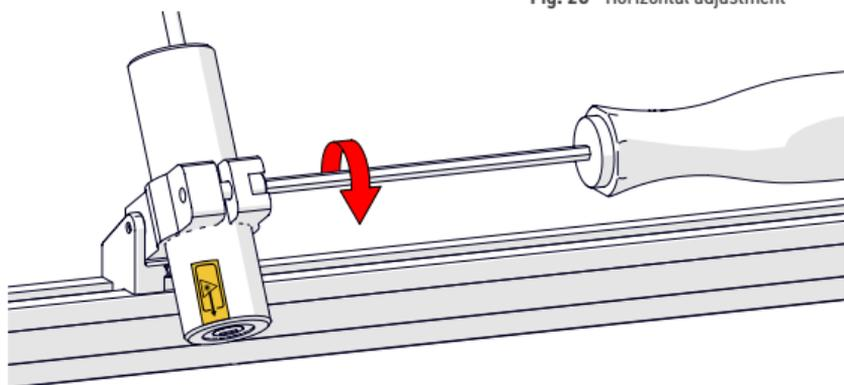

Fig. 21 - Loosen Optical Guide screw
1. Loosen the Optical Guide clamp screw (*Fig. 21*).